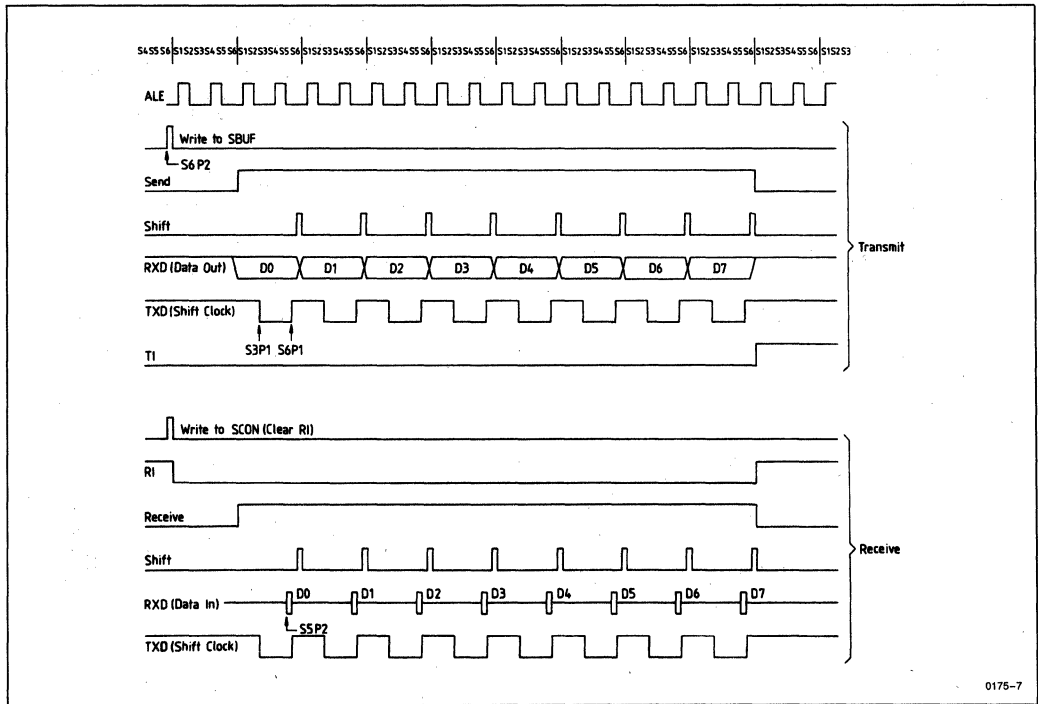

Figure 3-8. Serial Port Mode 0, Timing
Any instruction that uses SBUF as a destination register activates the "Write-to-SBUF" signal at S6P2. One full machine cycle later the output of the "shift register" is enabled to the alternate output function line P3.0. In state 3 phase 1 of this cycle, the first transition of the shift clock also occurs at the alternate output function line P3.1 (see Figure 3-8). The shift clock is low during S3, S4 and S5 of every machine cycle and high during S6, S1, S2 while the interface is transmitting. The shift clock remains high before and after transmission. At S6 P2 of every machine cycle in which a transmission takes place, the contents of the shift register are shifted one position to the right. In the 10th machine cycle after "write-to-SBUF", RxD outputs a one (1) and sets TI.